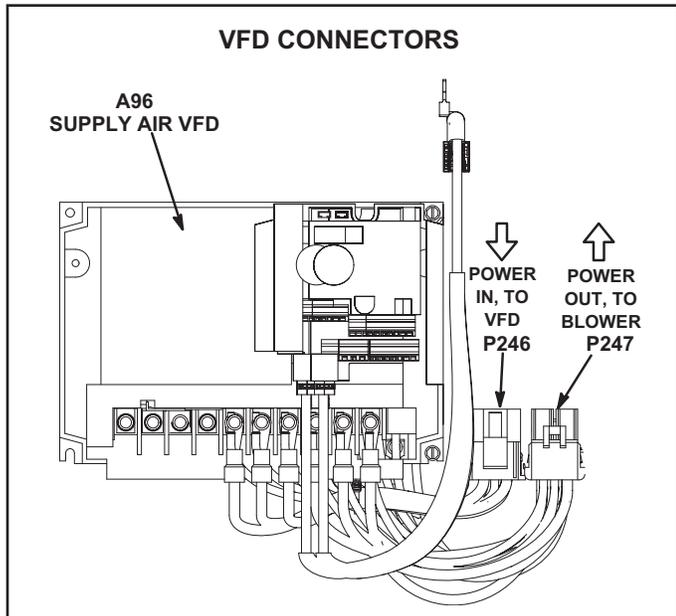

FIGURE 34
- 2 - Locate P246 and P247 connectors near the VFD. See FIGURE 34.